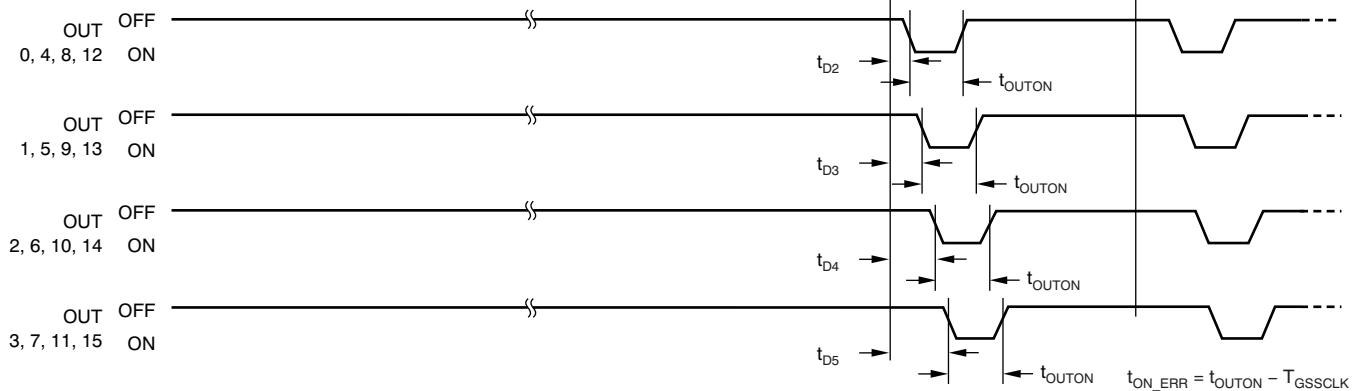

Figure 9. Grayscale Data Write Timing
The Grayscale (GS) Shift Registers and data latches are each 192 bits in length, and are used to set the PWM timing for each constant current driver. See Table 3 for the ON time duty of each GS data bit. Figure 22 shows the shift register and latch configuration. Refer to Figure 9 for the timing diagram for writing data into the GS shift register and latch. The driver on time is set by the data in the GS data latch. GS data present on the GSSIN pin are clocked into the GS Shift Register with each rising edge of the GSSCLK pin. Data are shifted in MSB first. Data are latched from the shift register into the GS data latch with a rising edge on the XGSLAT pin.